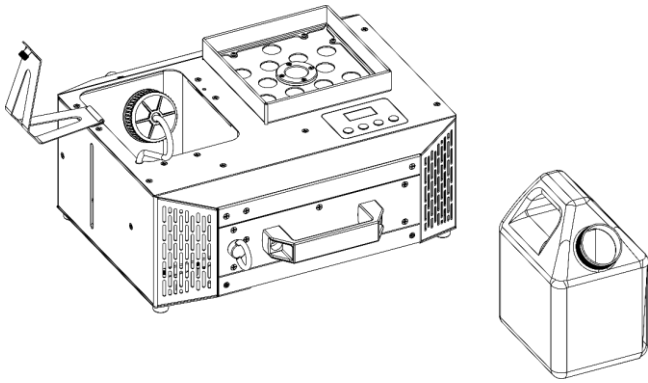

Fig. 32
- 06) Place the **fluid tank (02)** on a flat surface near the device, as shown in Fig. 32.